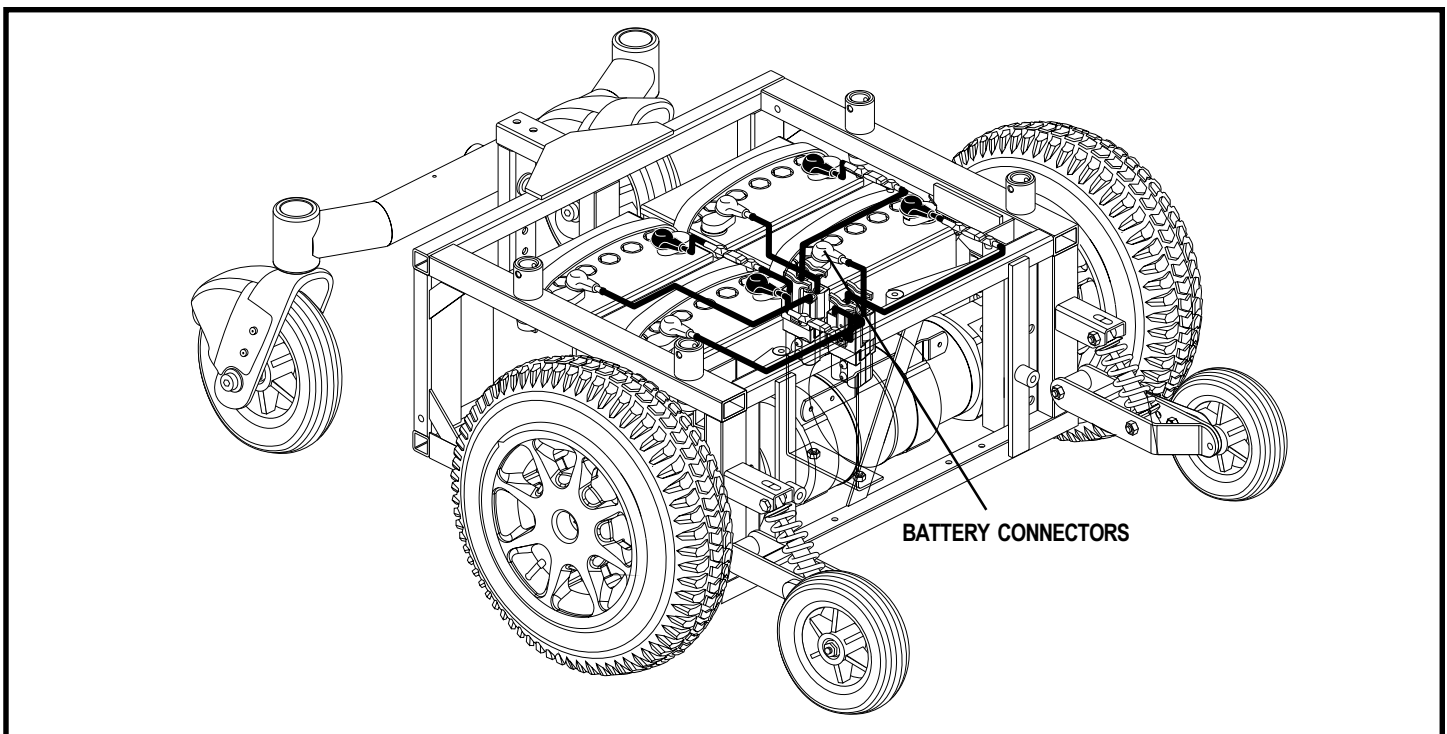

Figure 20. Quantum Jazzy 1650 Battery Connections (4-battery configuration)
6. Unplug the battery quick-connector from the power base. See figure 20.